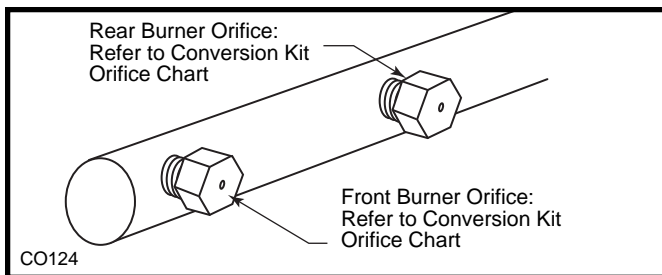

Fig. 67 Burner orifice replacement.
6. Remove burner orifice from manifold assembly using 7/16" wrench. (Fig. 67)